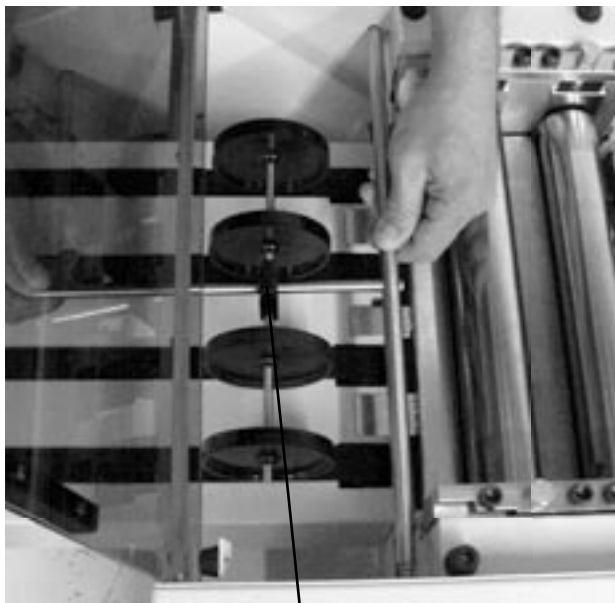

Fig 8
8. Install the conveyor nip rollers to sealer. Insert the spring-loaded end (right side – viewed from rear of the sealer) of the shaft into the locator hole in the side frame, compress the spring against the side frame and swing the opposite end into position in the other side frame (Fig. 8).
The nip wheels can be adjusted in or out to accommodate different size forms. This is done by grasping (Fig. 8) the black slide handle attached to the shaft and sliding it closer to the sealer or away from the sealer.